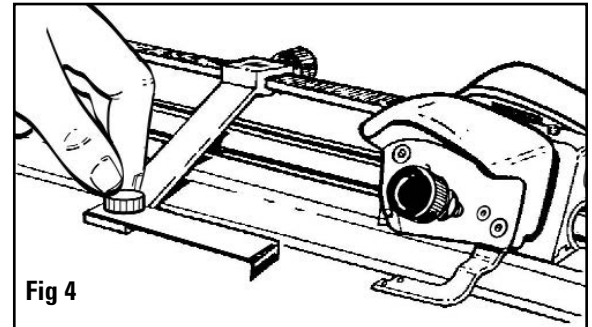

Fig 4
There are two squaring arms provided to choose from. The 27" arm is used for straight cutting. The 9" arm is an option if straight cutting is unnecessary or saving space is required. The screws for attaching the Squaring Arm and the small metal tool for aligning it can be found screwed into the board slot. Use the alignment tool to line up the slot in the board with the slot in the Squaring Arm before tightening the screws. **Fig 4**
4. Holding the blade holder as shown in Fig 4, pull the cutting head directly towards yourself until the mat board is completely cut.
6. Rotate the bevel blade holder down completely to seat the blade into the mat. **TIP:** Hold the cutting head firmly enough to not allow it to "creep forward" when first inserting the blade which will produce an overcut. **Fig 4**
6. Slide the cutting head into position in front of the top edge of the mat board. As the movable stop approaches the edge of the mat board, press down on the stop foot with your left index finger until it gently makes contact with the top edge of the mat. **Fig 4**
Tighten knob to lock leg into position. **Fig. 4**